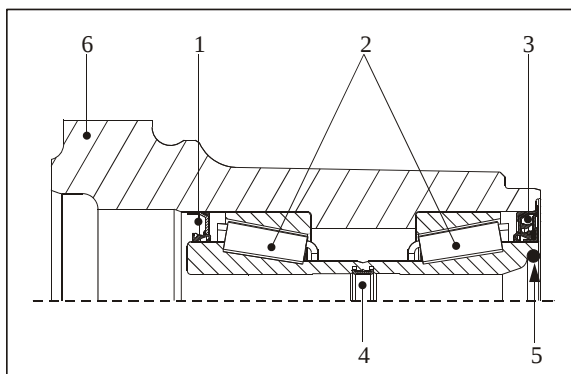

Figure 19
**Install the shaft seal with the open side facing the special tool (see Figure 19; item 1)!**
**Use the specified special tool (S) to obtain the correct installation depth!**
**The crimped side on the outer diameter must face the special tool (see Figure 19, item 3)!**